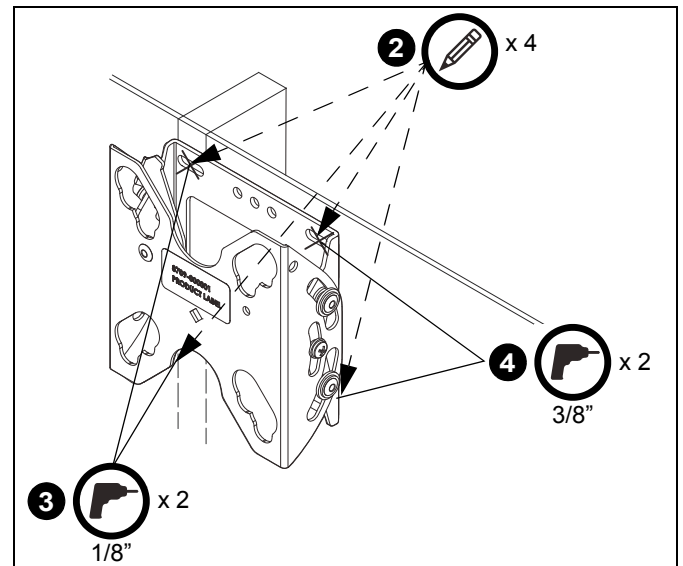

Figure 2
3. Drill 1/8" pilot holes in wood stud locations. Ensure pilot holes are straight. (See Figure 2)
4. Drill 3/8" anchor holes in the other two marked locations. Ensure holes are straight and completely through drywall. (See Figure 2)